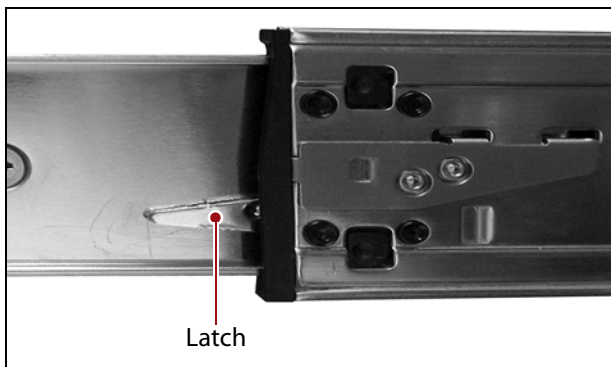

Figure 4 Self-locking latch.
3. Flip the rail assembly over so the outer rail is on top and the self-locking latch is facing you (see Figure 4).